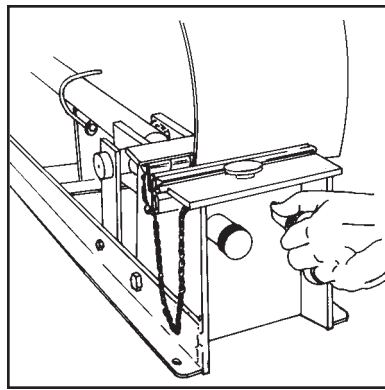

Figure 2
**3. ADJUST LACER FOR BELT THICKNESS** by loosening both adjusting knobs. Move both pressure plates to one end of Lacing Tool. Insert belt NEXT TO PRESSURE PLATES. With belt in lacer, tighten both adjusting knobs as tight as possible by hand (Fig. 2).